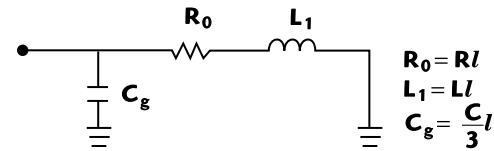

Figure 9: Low frequency lumped equivalent circuit for short-circuited lossy line
We recognize this as the admittance of the circuit shown in **Figure 9**. The inductance and capacitance both impose limits on how well matched we can make the termination over a given bandwidth.
In the late 1940s, H.W. Bode considered the problem of impedance matching two-element RC or RL loads.³ Bode's work was extended and generalized by Fano⁴ in 1950; Fano presented the limitations on impedance matching any load over an angular frequency range, ω_a to ω_b . However, for illustrative purposes, let us consider the case analyzed by Bode, i.e., where the inductive reactance is so much less than the value of the resistance at the highest frequency of interest that we can neglect the inductance altogether. For further simplicity, we take the lower frequency as zero (DC). Then, applying Bode's formula to the circuit of Fig. 9, the best possible results are limited as indicated by